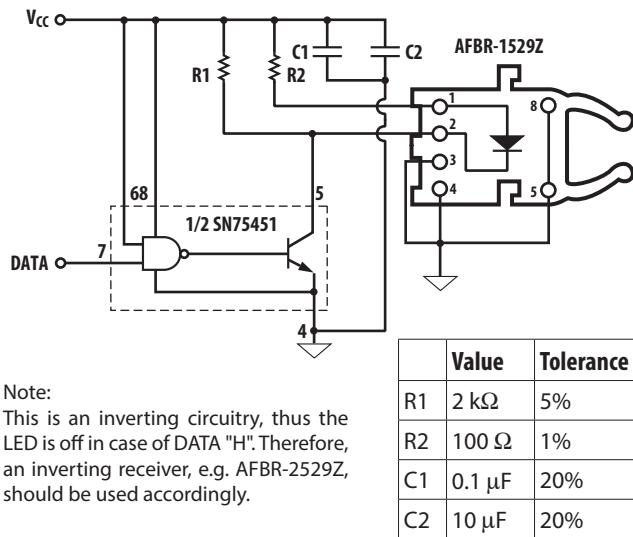

Figure 3. Recommended drive circuit Top View
- Optical power measured with polished connector end face at the end of 0.5 meters of 1 mm diameter POF with a numerical aperture (NA) of 0.5, or of 200 μm diameter PCS, with NA=0.37.
- Using the recommended drive circuitry according to Figure 3.